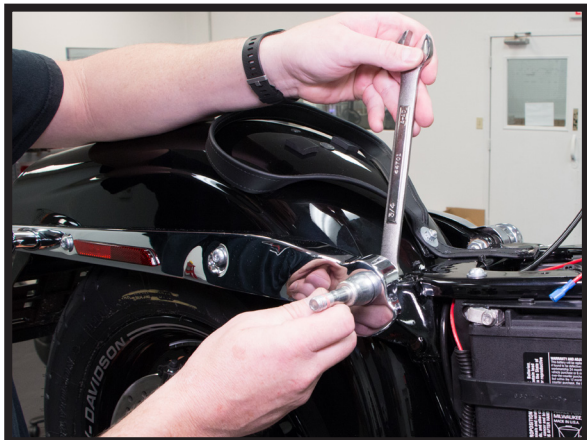

FIGURE 19
10. REMOVE THE OE SHOCKS AND THE UPPER SHOCK MOUNT POSTS. SAVE THE NUT AND WASHER FROM THE POST; YOU WILL NEED TO REUSE THESE. (FIGURES 19, 20)